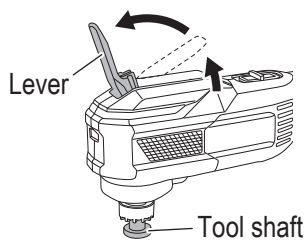

Fig. 9
- (1) Pull the lever up. (**Fig. 9**)